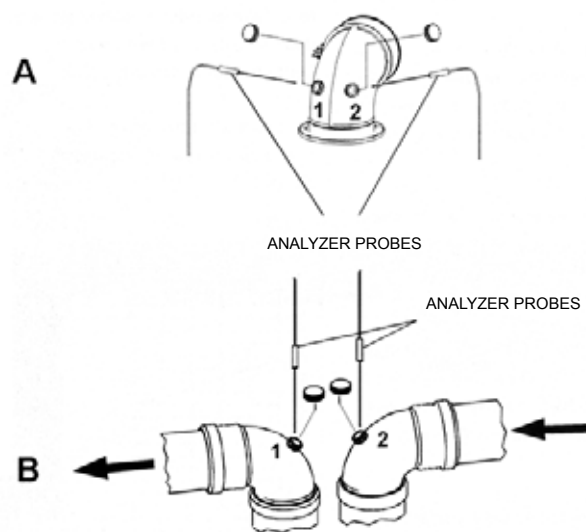

Fig. 14 Examples of flue gas testing points
- assess combustion air temperature from opening 1 (see ref. (A) Fig. 14 Examples of flue gas testing points , for sealed chamber boilers provided with pipes with preset holes).
- assess flue gas temperature and CO₂ quantity from no. 2 opening (see ref. (A) Fig. 14 Examples of flue gas testing points , for sealed chamber boilers provided with pipes with preset holes).
- assess combustion air temperature from opening 2 (see ref. (B) Fig. 14 Examples of flue gas testing points , for sealed chambers provided with pipes with preset holes).
- assess flue gas temperature and CO₂ quantity from no. 1 opening (see ref. (B) Fig. 14 Examples of flue gas testing points , for sealed chamber boilers provided with pipes with preset holes).